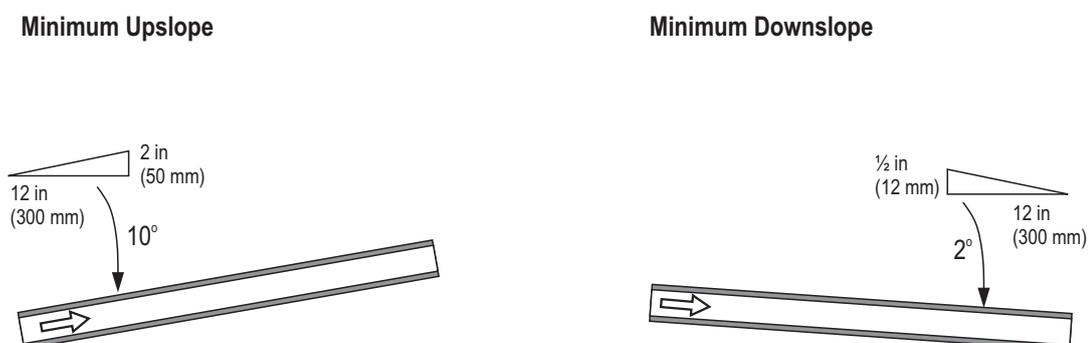

Figure 18: Steam Line Slope
- The steam line must have a constant minimum upslope of 10°, or a constant minimum downslope of 2°, as shown in Figure 18.